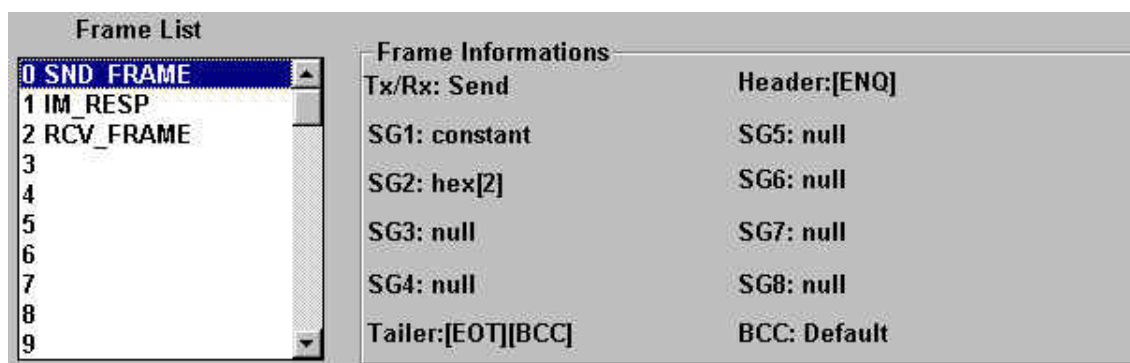
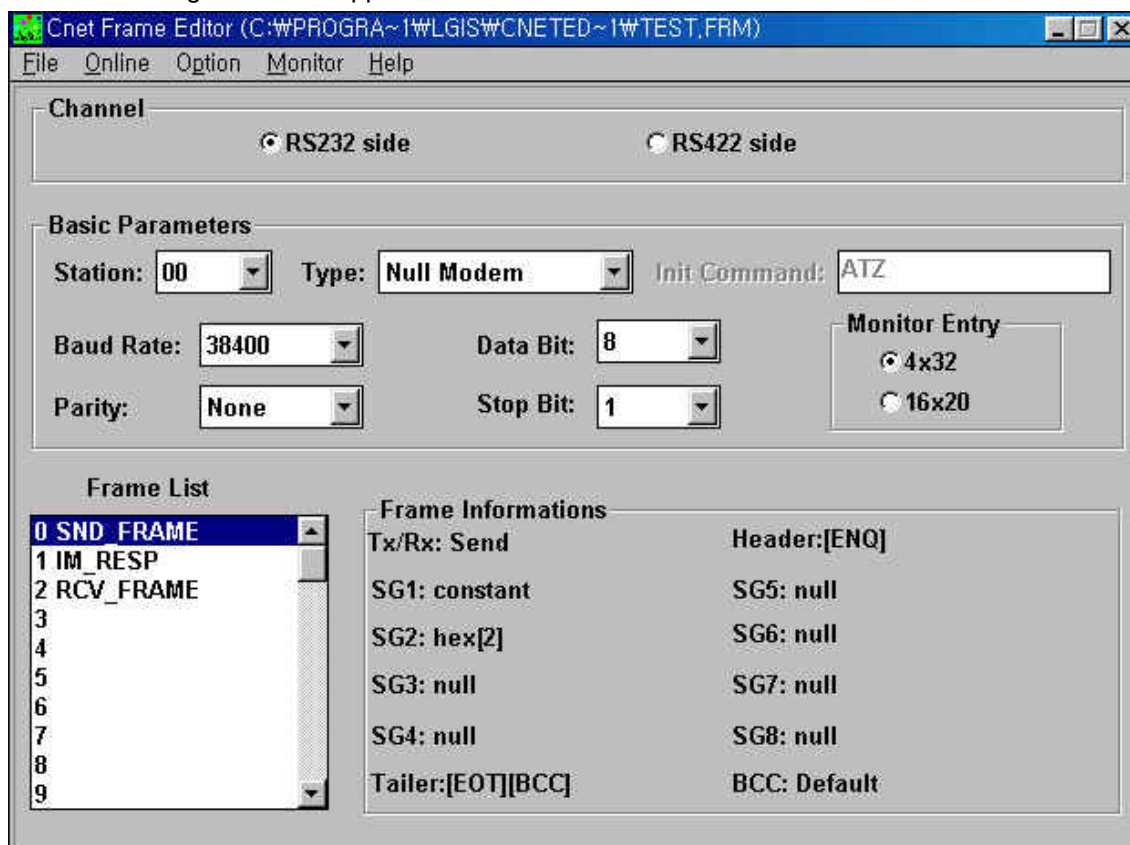

Fig. 6.3 The frame list and information
Fig. 6.4 Frame setting window
The figure 6.3 is a lower part of initial screen of frame editor, and it shows a frame list and brief information.
- ① Select a frame number in the frame list of figure 6.3, and double-click. The screen as the figure 6.4 will appear.
- ① Select a frame number at the frame list.
- ② Input a frame name after the screen as the figure 6.4 appeared.
- ③ Set the direction of data. To receive data from external device, select 'Receive'.
- ④ Set a header of frame. It is similar with that of sending frame. In this example, input [STX] to the header.
- ⑤ Set each segments of frame. When a segment is set as array, use only the 'RD1.' for variable name.
- ⑥ Set the tail of frame.